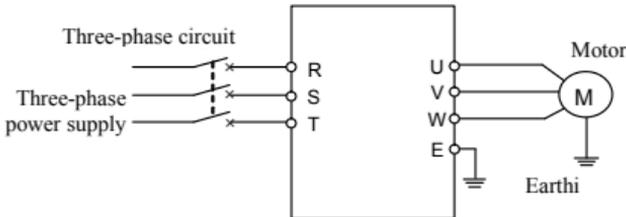

Figure 4-2 Simple Running Wiring Diagram
- ① Connect wires as per Figure 4-2;
- ② Switch on the power supply after confirming that the wires are connected correctly, and the inverter will firstly display “P.oFF” and then “0”.
- ③ Confirm that the frequency setting channel is at the digit setting model ([F0.00] = 0);
- ④ It is required to set parameter [F2.00] and [F2.01] according to the rated nameplate data on the inverter’s dragging motor.
- ⑤ Press  key to start the inverter and the inverter will input 0 frequency, displaying “0.0”.
- ⑥ Press Up of  key to increase set frequency, and the output frequency of the inverter will increase and the motor revolution will also increase.
- ⑦ Check if the motor run normally. In case of any abnormality, stop running the motor immediately and disconnect power supply. Do not run the motor until fault cause is found.
- ⑧ Press Down on the  key to decrease set frequency.
- ⑨ Press  key again to stop running and cut off the power supply.